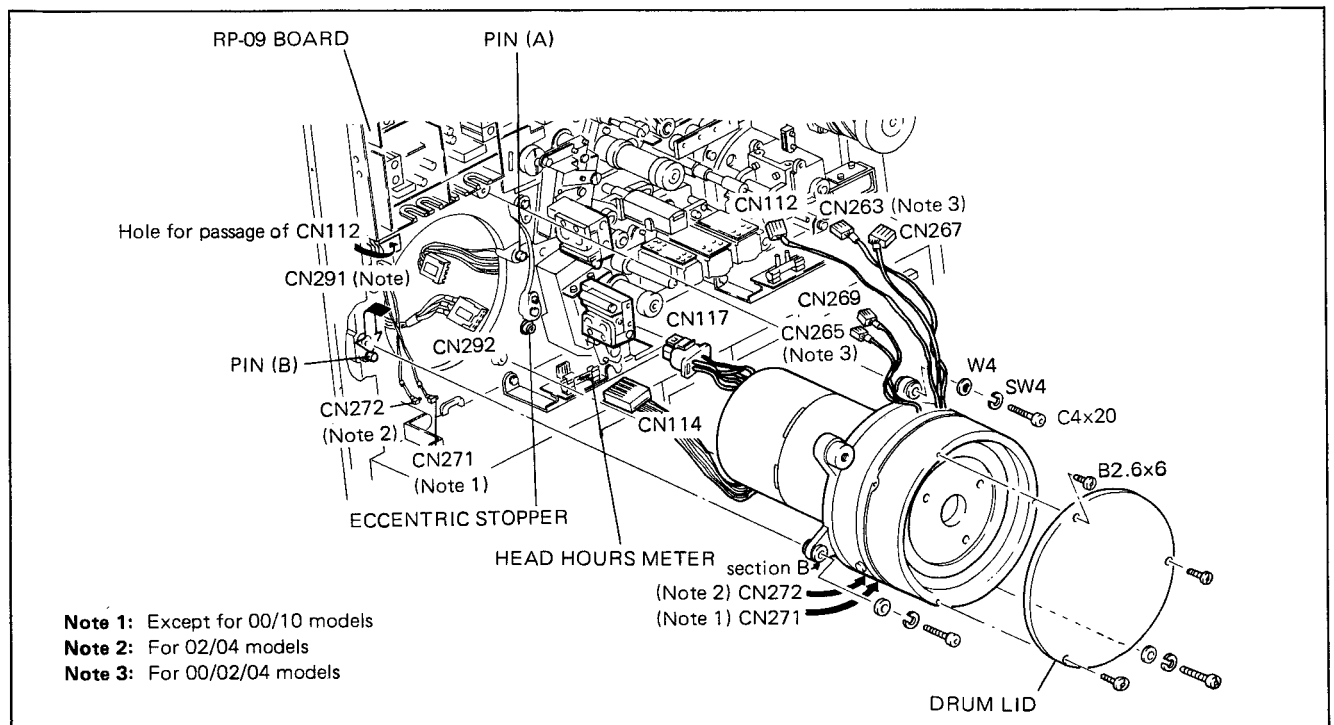

Fig. 3-10. Installation of the Head Drum Assembly
13. Pass the connectors CN114 and CN117 through the hole in the base plate to the rear. Hold the head drum assembly securely as shown in Fig. 3-10, match the guide hole of the drum slant base with the pin (A), and then push the part B of the drum slant base against the pin (B). Confirming that the slant base and the bosses on the base plate fit perfectly and fix with the three screws (C4×20) via the washers (W4), and the spring washers (SW4).
15. Plug the connectors CN271 and CN272 at the positions shown in Fig. 3-10.
16. Pass the connector CN112 through the hole shown in Fig. 3-10 to the rear of the base plate.
20. While pushing the movable guide assembly in both directions of the head drum assembly and the eccentric stopper shown in Fig. 3-10 simultaneously, tighten the four screws securely.